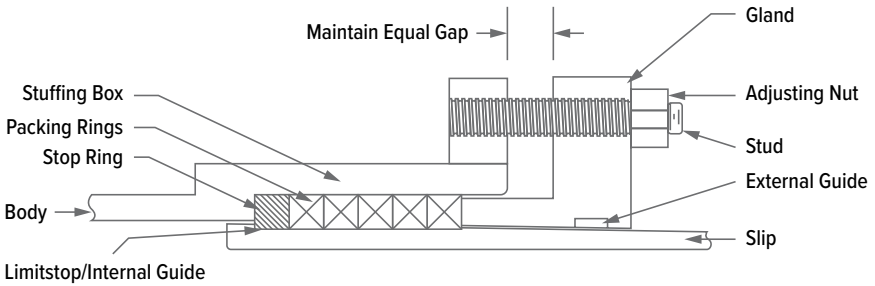

Figure 1
- 1) **Initial Gland Draw-Up** – Glands must be drawn up uniformly to prevent any damage to the slip. The distance between the gland face and the stuffing box flange must be equal around the circumference of the slip (See Figure 1).